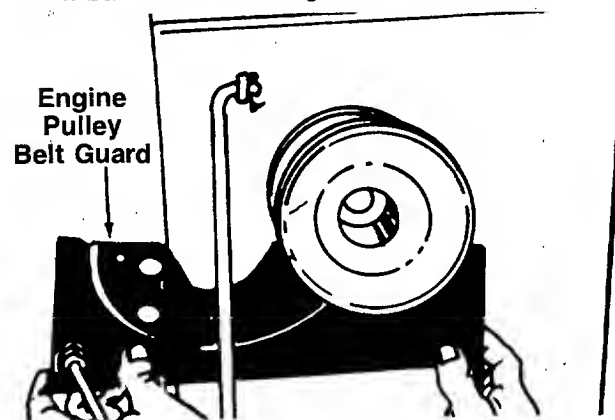

FIGURE 23.
6. Remove the engine pulley belt guard by slipping it back and to the right. See figure 23.